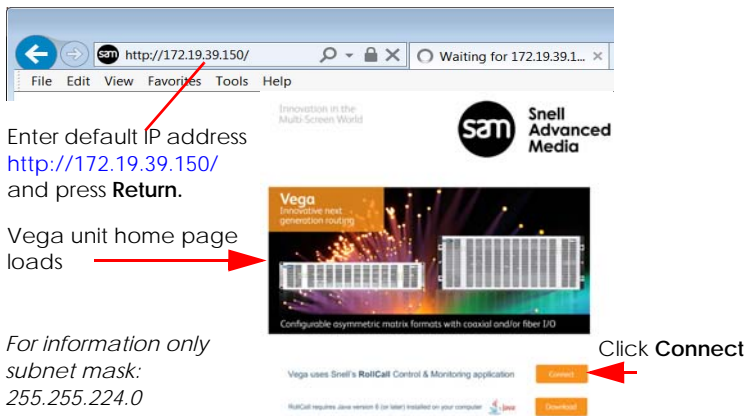

Figure 12: Browse to the Vega home page
4. Enter the default IP address of Controller A (see **Figure 12**).